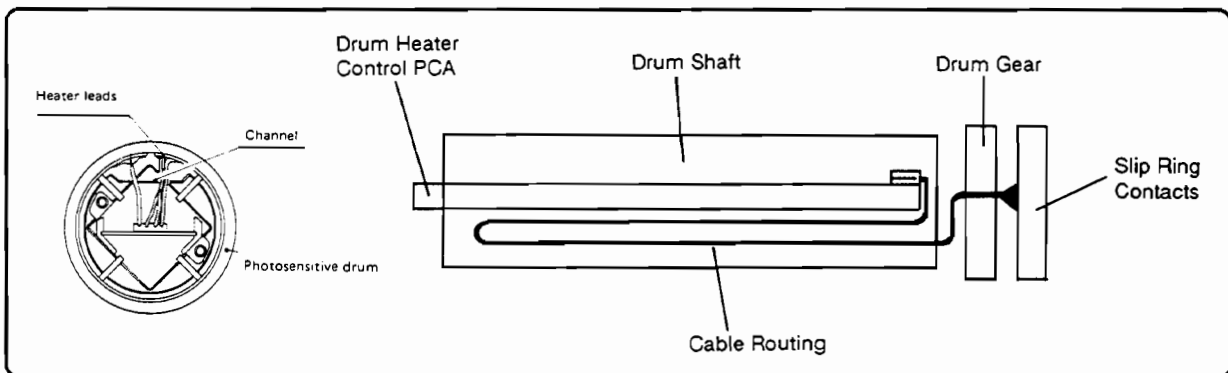

Figure 6-54. Drum Heater PCA
2. Slide the PCA forward and unplug the rear AC Power Connector (Figure 6-54).
Replacement: Reverse the above. Be sure the wires are properly routed through the flat channel and tucked under the PCA when replacing (see Figure 6-54).